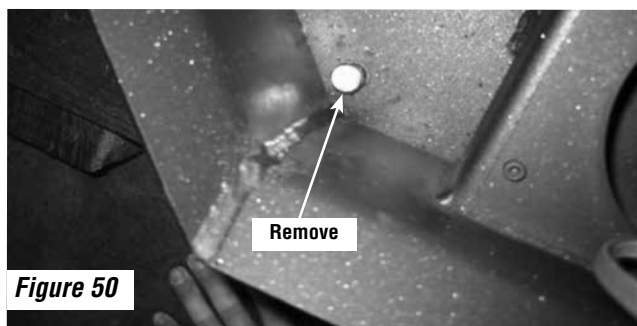
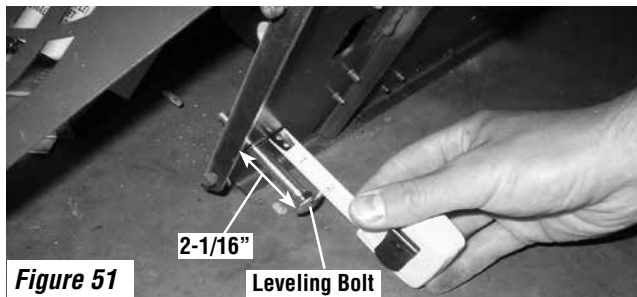

Figure 50
Figure 51
2. Install your four leveling bolts (provided with the appliance). Open the main front door and remove the two bolts in the front right and front left of the bottom of the fire box see **Figure 50**. **NOTE:** Placing a level on the insert top is recommended to ensure your insert is level. Again with the insert very cautiously tilted back, insert your four leveling bolts approximately 2-1/16" (52 mm) into the holes provided at the bottom of the insert (see **Figure 51**).